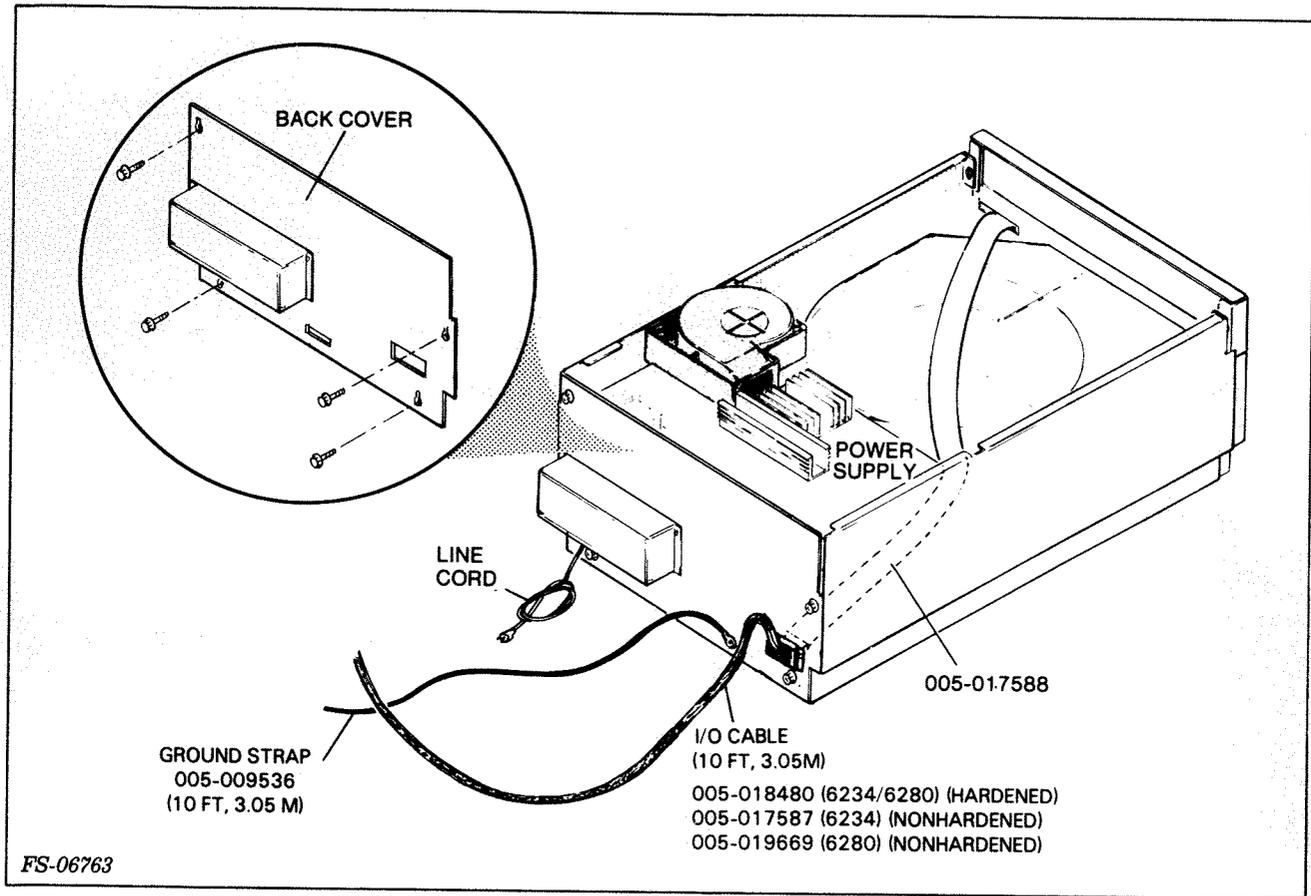

Figure 5-5. Rigid Disk Drive, Back Cover Removed
3. Loosen the four screws that hold the back cover to the drive. Slide the cover up and away from the drive. Now hook it to the back of the drive (see Figure 5-5).